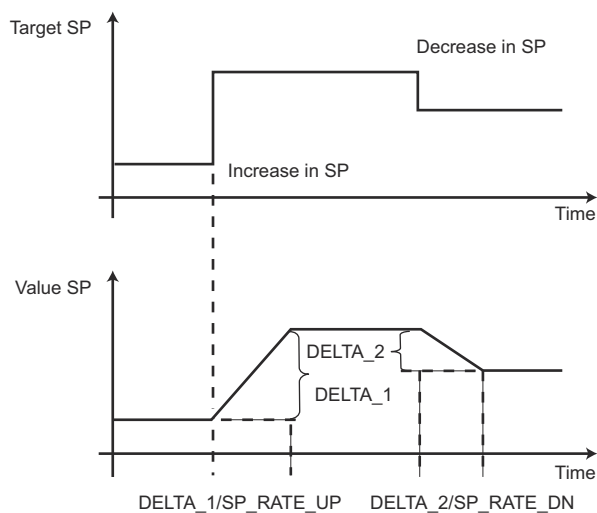

Fig. 2-9: Effect of *SP_RATE_UP* and *SP_RATE_DN* on a change in setpoint
Fig. 2-9 shows the information flow in a simple control loop. In the so-called forward path, the primary output value of the Analog Input (AI) block provides the input to the PID control block and the primary output of the PID block provides the input to the Analog Output (AO) block. This acts on the information, e.g. by opening or closing the connected valve, and reports the position change to the PID block via the so-called backward path by means of the back calculation parameter.